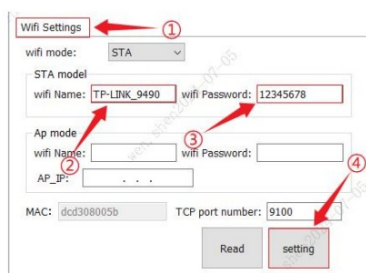

Fig.1
3. Once the “STA Mode” has been enabled, please enter the name and password of your external WiFi network (e.g. router) and confirm (shown in Fig.1).